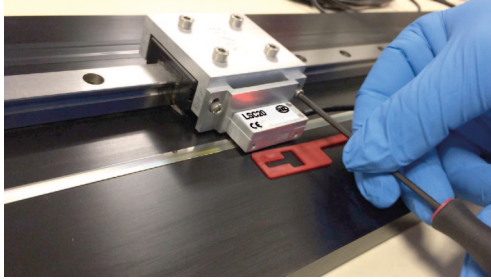

Fig. 3:
1. Loosen the sensor in the Z-axis Fig. 3